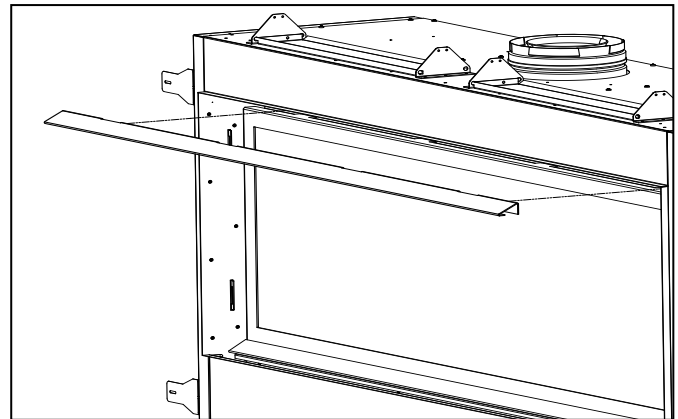

Figure 21: Discharge Accelerator removal
3. There is a CSS cover on the inner top of the cabinet that must be removed. It is attached using #8 T20 screw. Remove these screws and remove the cover (see Figures 21 & 22).